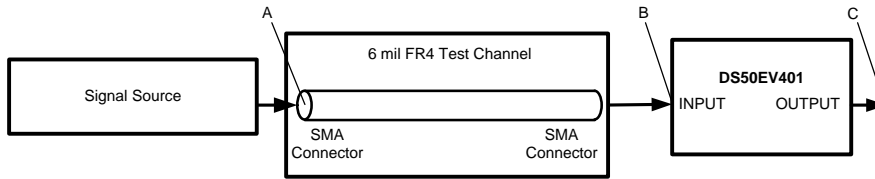

Figure 2. Test Setup Diagram
(4) V_{IN-S} is a measurement of the input differential envelope, see FR4 / BACKPLANE Typical Performance Eye Diagrams. The device does not require an open eye.
(5) Specification is ensured by characterization at optimal MODE setting and is not tested in production.
(6) Measured with clock-like {11111 00000} pattern.
(7) Specification is ensured by characterization at optimal MODE setting and is not tested in production.
(8) Deterministic jitter is measured at the differential outputs (point C of Figure 2), minus the deterministic jitter before the test channel (point A of Figure 2). Random jitter is removed through the use of averaging or similar means.
(9) Random jitter contributed by the equalizer is defined as sqrt(J_{OUT}² – J_N²). J_{OUT} is the random jitter at equalizer outputs in ps-rms, see point C of Figure 2; J_N is the random jitter at the input of the equalizer in ps-rms, see point B of Figure 2.